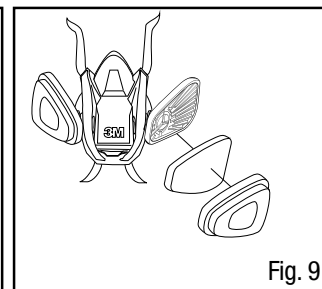

Fig. 9
3. Place filter into 501 retainer with filter printing facing towards the 603 adapter. Snap together and ensure the filter seal is free from creases or gaps (Fig. 9).